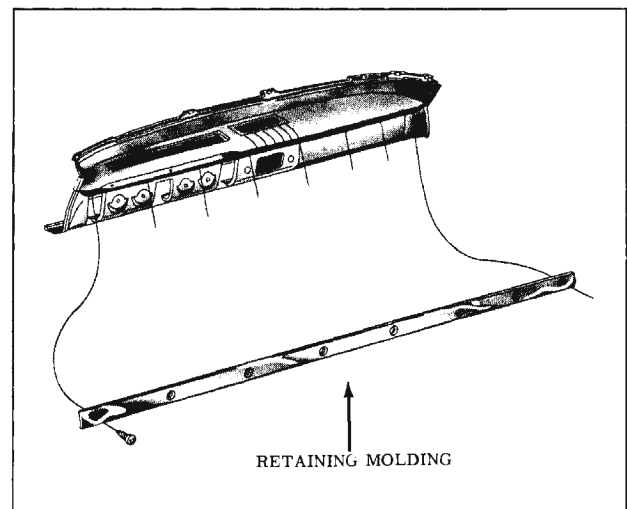

Fig. 16-225 Instrument Panel Retaining Molding
4. Remove cover retaining molding. (Fig. 16-225)